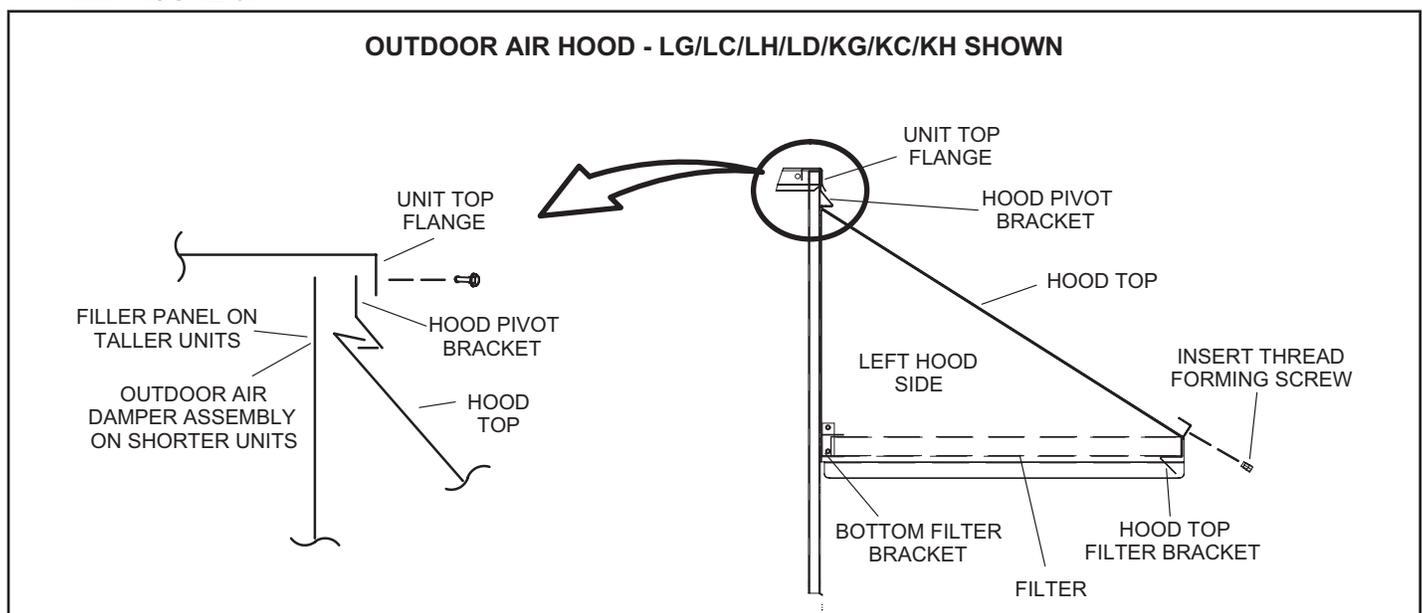

FIGURE 9
Slide the top edge of hood pivot bracket between the unit cabinet top flange and the outdoor air assembly. See FIGURE 9. Secure pivot bracket using retained end panel screws. Install, but do not tighten, the screws.
- 2 - Position the hood top V-channel under the corresponding V-channel on hood pivot bracket. Slide hood from left to right until it is properly positioned. See FIGURE 9.